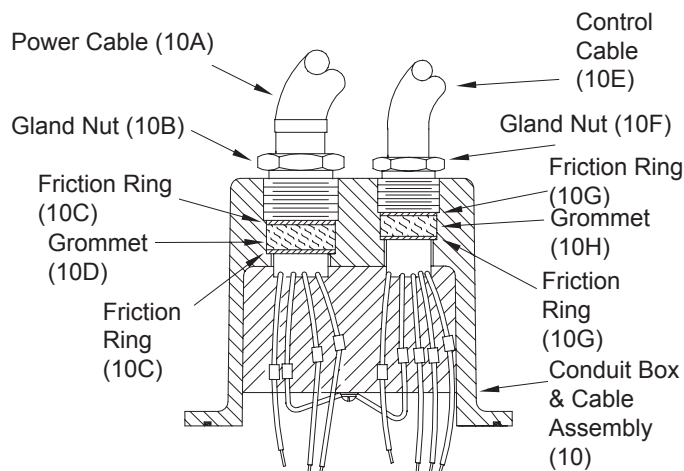

FIGURE 4
Check power cable (10A) and control cable (10E) (if used), on conduit box (10), for cracks or damage and replace complete conduit box assembly (10) if required (See Figure 4). Bring motor wires through wire opening in top of housing (2), position square ring (11) in conduit housing (10) and reconnect motor leads to power cable and moisture and temperature sensor leads to control cable (if equipped) using connectors (12) and (17) as show in Figure 3.
Refill with cooling oil as outlined in paragraph F-1.3. Position conduit box (10) and square ring (11) over opening. Place lockwashers (4) on cap screws (6), apply thread locking compound to cap screws (6) threads and torque to 16 ft lbs. Remove gland nuts (10B) and (10F), friction rings (10C) and (10G), and grommets (10D) and (10H) from conduit box (10) inspect and replace if required. (See Figure 4)